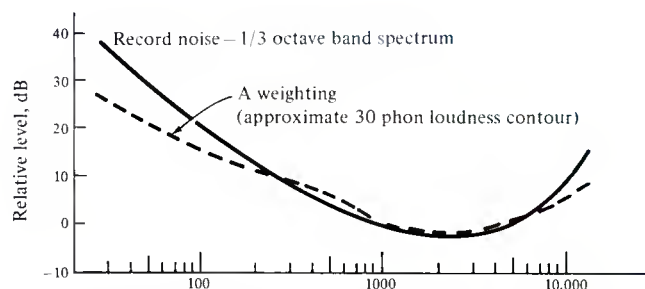

Figure 1. The difference between the 30 phon loudness contour and the record noise spectrum produces a reasonably-flat response across the audio bandwidth.
**A**CCORDING TO A CBS Technical Bulletin, the noise spectrum for the typical phonograph record is relatively strong at high and low frequencies, while the ear is less sensitive to the frequency extremes of low-level noise. For example, if the 30-phon loudness contour seen in FIGURE 1 is subtracted from the record noise spectrum, the resultant perceived noise is nearly flat across the audio bandwidth (or at least, from about 100 Hz upwards).